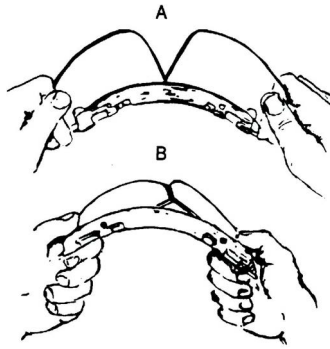
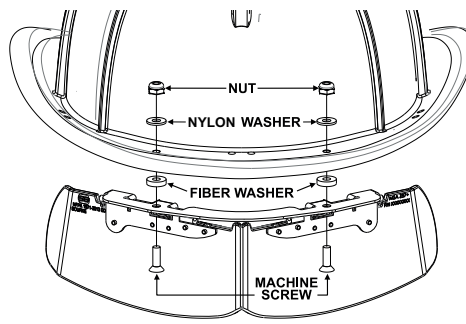
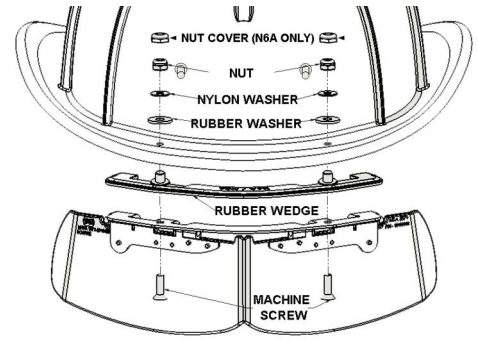

Fig. 5 Unattached lenses
Fig. 6 Mounting the Bourke on 1010/1044/880/1836 Fire Helmets
Fig. 7 Mounting the Bourke on leather helmets
### P/N S10KP (see Fig. 5/Fig. 6)
- (2) Drill two holes:
- (3) Open unattached lenses by grasping the lenses (as shown in Fig. 5 A) and press downward. Rotate the lenses from the brass plate until they meet (as shown in Fig. 5 B) and are at a 90 degree angle to the plate.
- (4) Using the hardware provided, mount the Bourke to the respective helmet as shown in Fig. 6 and Fig. 7.
- (5) Remove protective covering from the lenses.